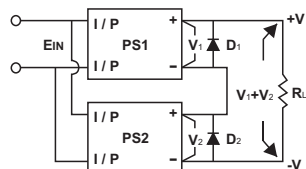

Figure 11: Series connection by adding external reverse blocking diodes
- Increase the output voltage (current does not change). If there is no reverse blocking diode in the power supply, we should add an external blocking diode to prevent the damage of power supply while starting up. The voltage rating of the external diode should be larger than  $V_1+V_2$  (as figure 11).